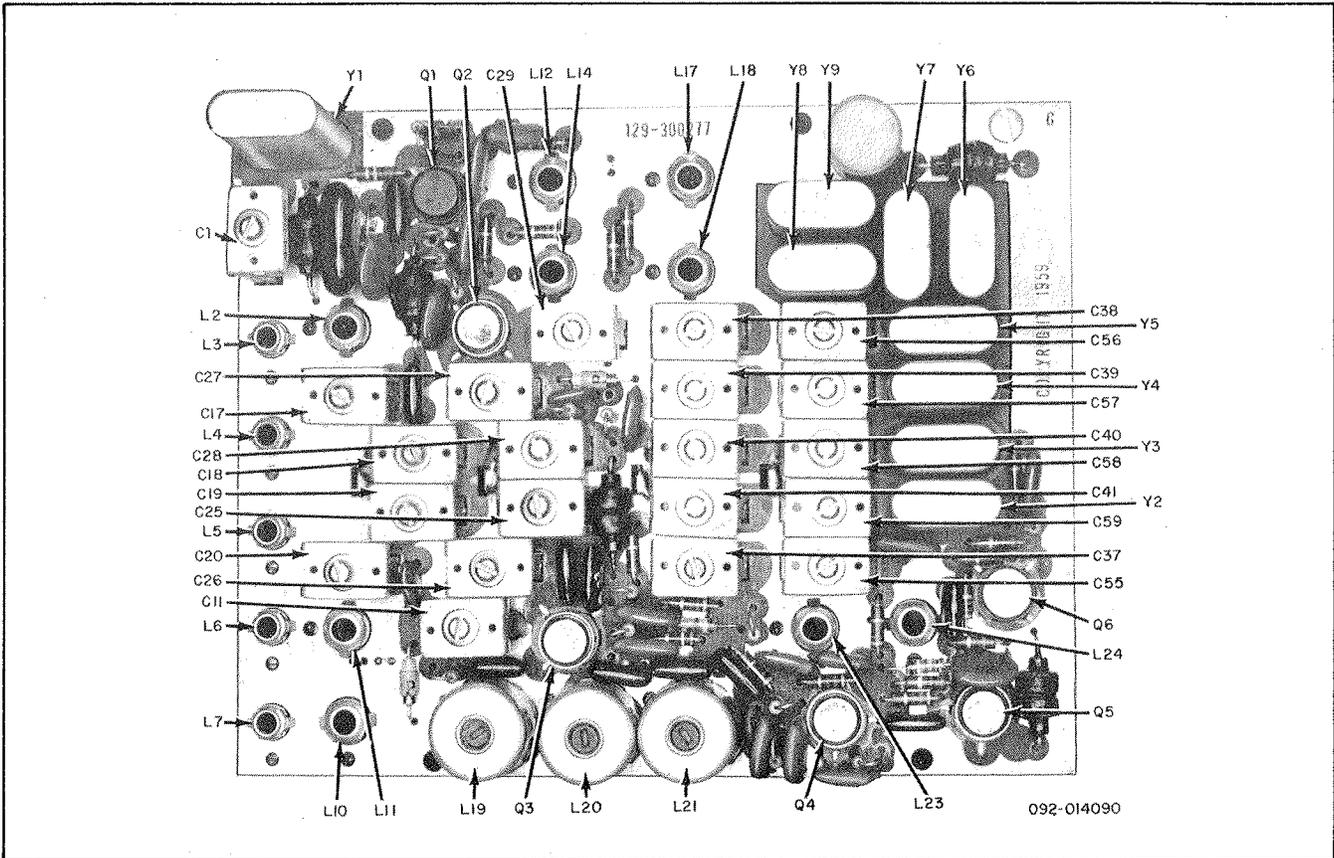

Figure 18. Top View of Receiver Heterodyne Board.
1. Connect a signal generator to the receiver first mixer collector and an RF VTVM to the base of receiver stepping IF amplifier. (See figure 18)